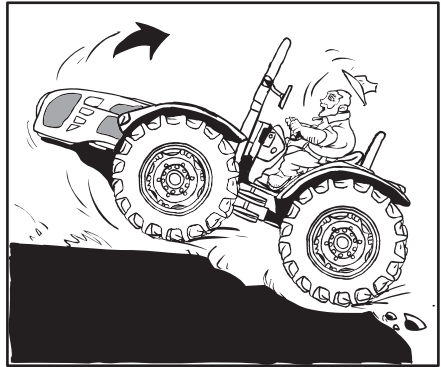

Fig. 2.16
- If the tractor is mired in mud or stuck in the ground, do NOT attempt to exit by driving forward. The tractor could rotate on its rear tires and overturn (Fig. 2.16). Lift or remove the installed implements and try to MOVE IN REVERSE. If this is not possible, tow the tractor out with another vehicle.